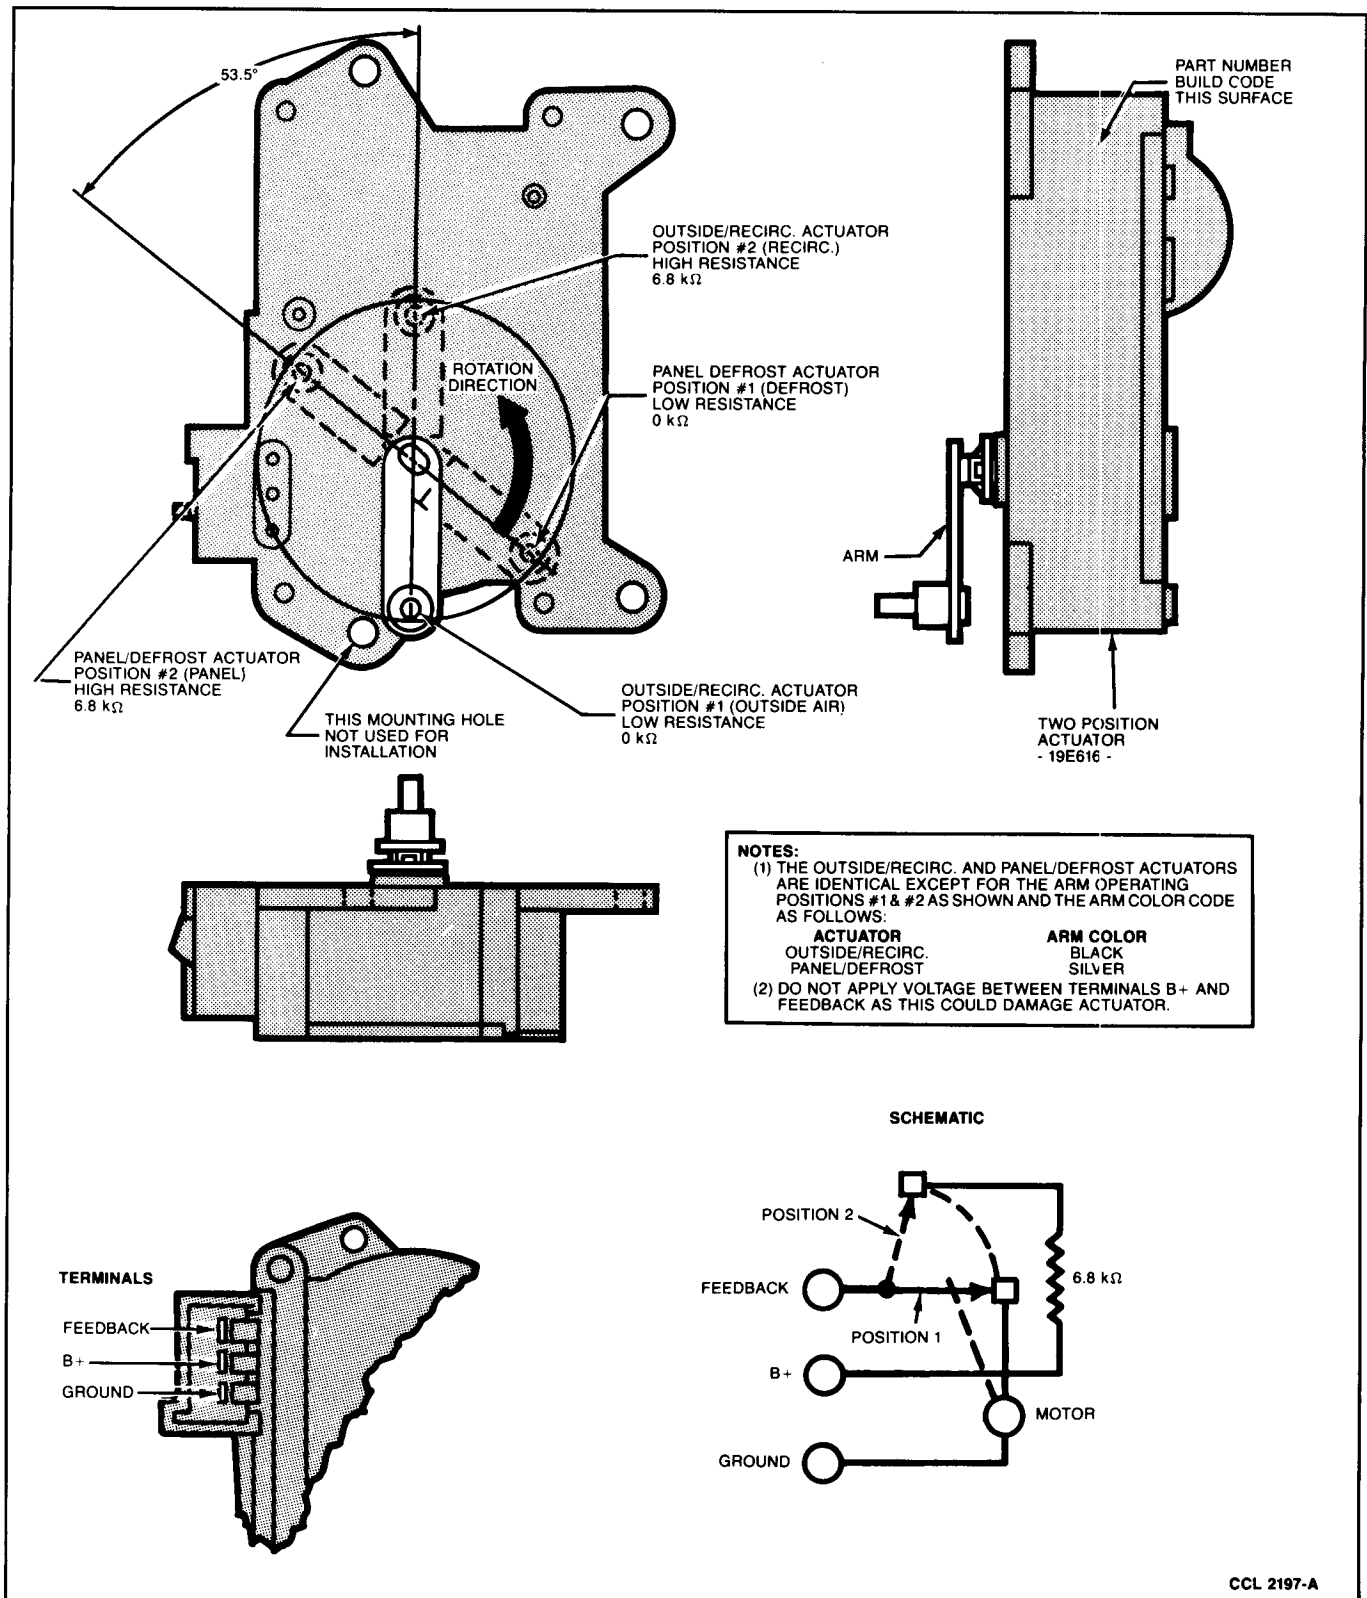

FIG. 10 Two Position Actuators—Outside/Recirc and Panel/Defrost
- **Two Position Actuators (Fig. 10):** The two position actuators operate the panel defrost door and the fresh air/recirc door. These actuators operate only in a counterclockwise direction and stop in one of two pre-established positions, 180 degrees apart, as signalled from the control head. The two position actuators within each system are not interchangeable, since the stop points for each actuator are not identical. The output arms of the two position actuators are color coded for easy identification. The panel/defrost actuator arm is silver and the F/A/Recirc actuator arm is black. Care should be exercised to ensure that each two position actuator is installed only in its correct location (i.e. Panel/Defrost or F/A/Recirc) to ensure proper system performance. Each two position actuator has four mounting holes, however, only three of the mounting holes are utilized in each mounting location. The mounting hole closest to the electrical connector is not used.